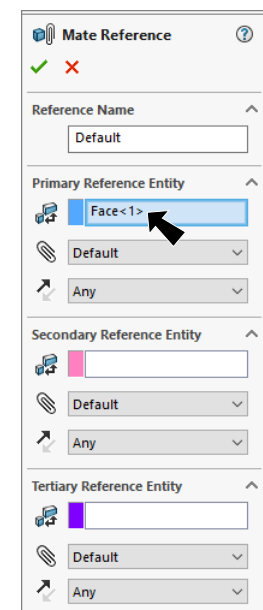

Fig. 21
Step 3. In the Mate Reference Property Manager click OK , **Fig. 21**.